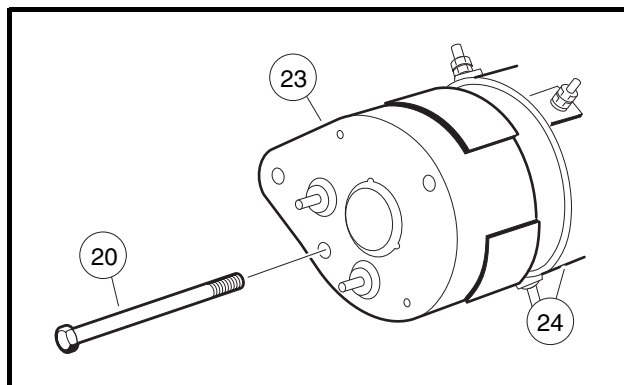

Figure 13-2 Commutator End Cover
1. Remove the two bolts (20) and pull commutator end cover (23) free of starter/generator housing (24) (Figure 13-2, Page 13-2). See following NOTE.
3. Install the commutator end cover (23) onto the armature shaft. Align the locating pin and hole in the cover. Install two M6 x 180 mm bolts (20) and tighten to 100 in-lb (11.3 N·m) (**Figure 13-2, Page 13-2**).
1. Remove the two bolts (20), and pull commutator end cover (23) free of the starter/generator housing (24) (**Figure 13-2, Page 13-2**). See following NOTE.
9. Install the commutator end cover (23) onto the armature shaft. Align the locating pin and hole in the cover. Install the two M6 x 180 mm bolts (20) and tighten to 100 in-lb (11.3 N·m) (**Figure 13-2, Page 13-2**).